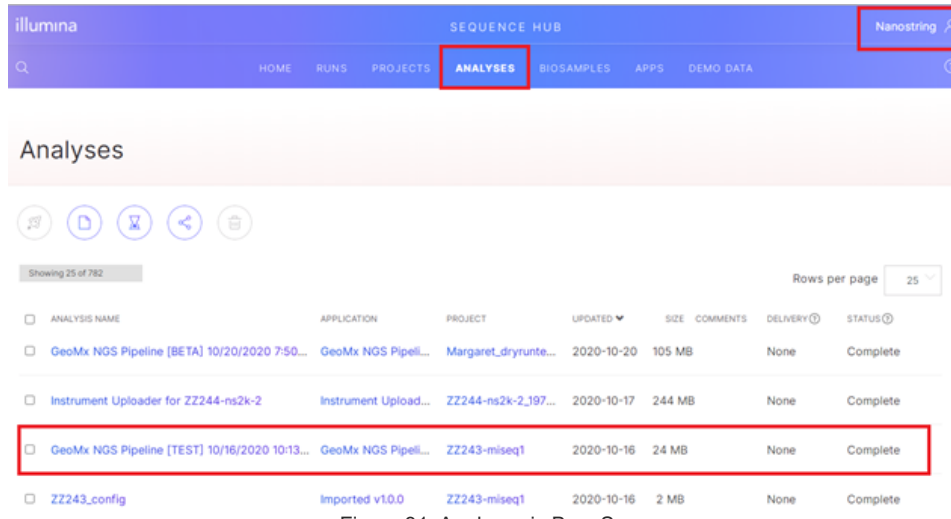

Figure 31: Analyses in BaseSpace
7. Check run output by logging into BaseSpace, navigating to Workgroup, and selecting the **Analyses** tab (see Figure 31).